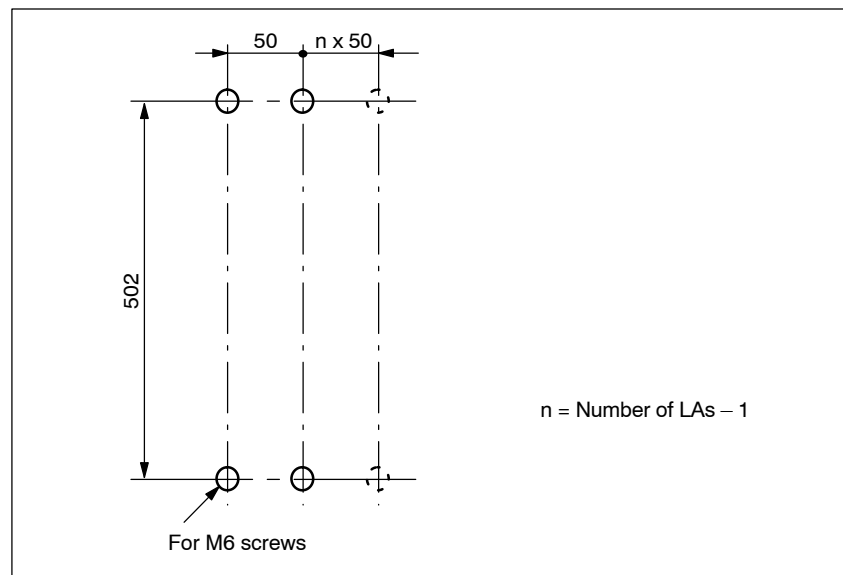

Figure 3-2 Template for components of the HS 724i
2. Trace bored hole template (figure 3-2) on carrier plate and drill holes.